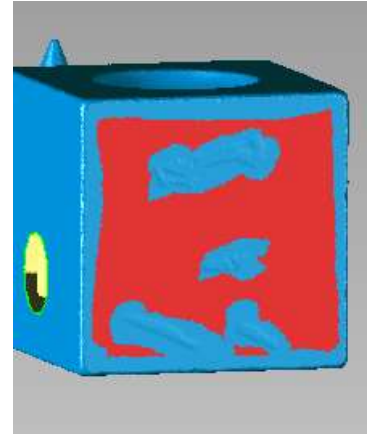

Figure 66
5. Press the **CTRL** key while you deselect the areas shown in **Figure 66**.